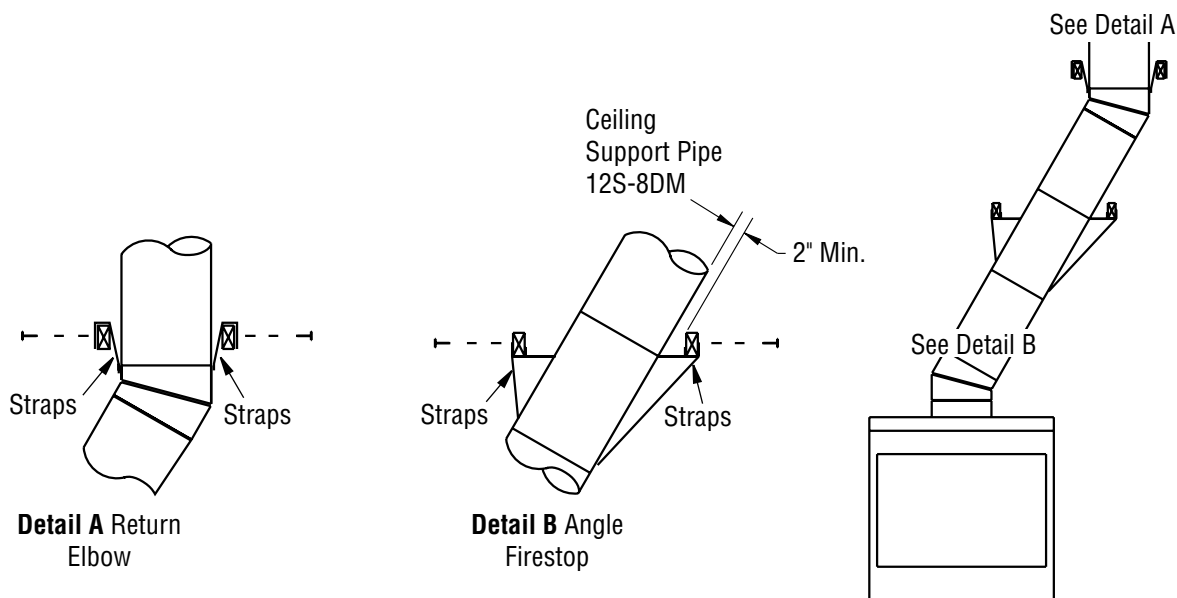

Figure 10 - Ceiling Support Pipe 12S-8DM
2. Chimney weight above offset rests on return elbow. Straps must be securely nailed to rafters or joists (see Figure 10, details A and B, page 8).